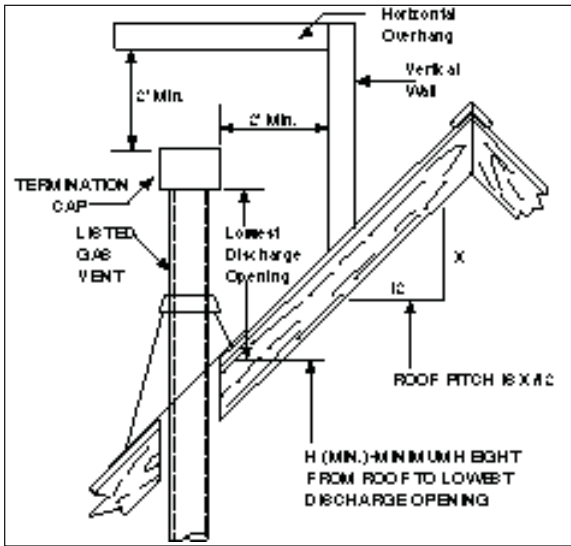

Figure 10
4. Installing Roof Flashing or Site-produced Chase Top. Position roof flashing (or construct a chase and chase top) and secure in place with nails. Continue to add vent sections through the roof opening, maintaining at least a one inch air space clearance. Major building codes specify a minimum vent (chimney) height above the roof top depending on roof pitch. See Figures 10 and 11. The Termination Cap must be at least 2 feet from a vertical wall and 2 feet below a horizontal overhang. Note that for steep roof pitches, the vent height must be increased.